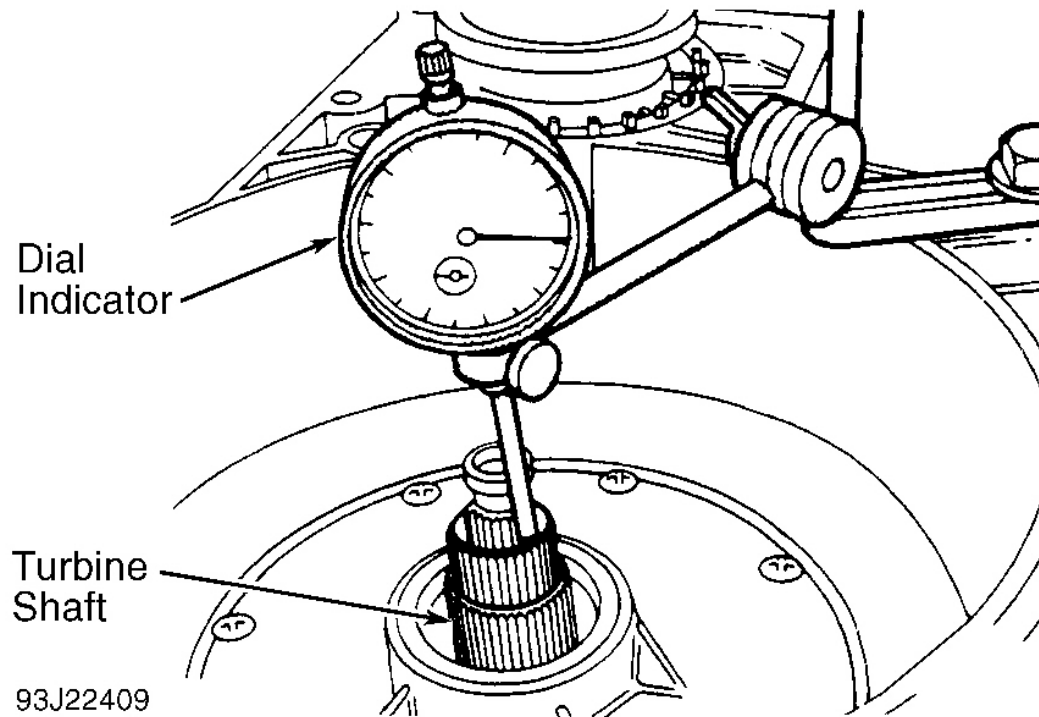

Fig. 77: Checking Turbine Shaft End Play
8. For checking purposes, install oil pump gasket and oil pump. See **Fig. 19** . Position dial indicator and Support (VW 387) on transaxle case. See **Fig. 77** .